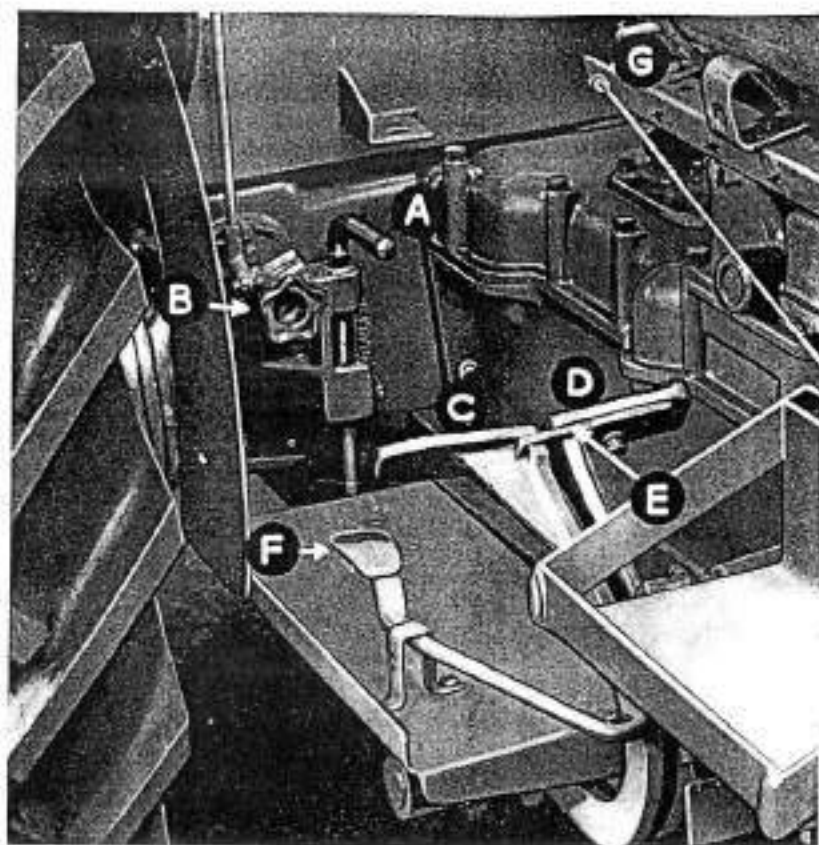

FIG. 5
### RADIATOR BLIND CONTROL (G, Fig. 5)
#### BRAKE PEDALS (C and D, Fig. 5)
Independently acting brake pedals are mounted side by side on the offside and may be used individually as steering brakes for making short turns at headlands. When applied each pedal operates the corresponding rear wheel brake. The pedals may be locked together with a locking bar (E, Fig. 5) and used as road brakes.
#### HAND BRAKE (A, Fig. 5)
Hand Wheel B, Fig. 5, fitted at the front right side axle case.
2. To adjust the amount of traction control, turn the hand wheel B, Fig. 5, in a clockwise direction, as indicated by the arrow, to increase the traction or in an anti-clockwise direction to reduce the traction. The hand wheel adjusting screw has a maximum of four complete turns and each turn requires six "clicks" of the graduated adjustment.